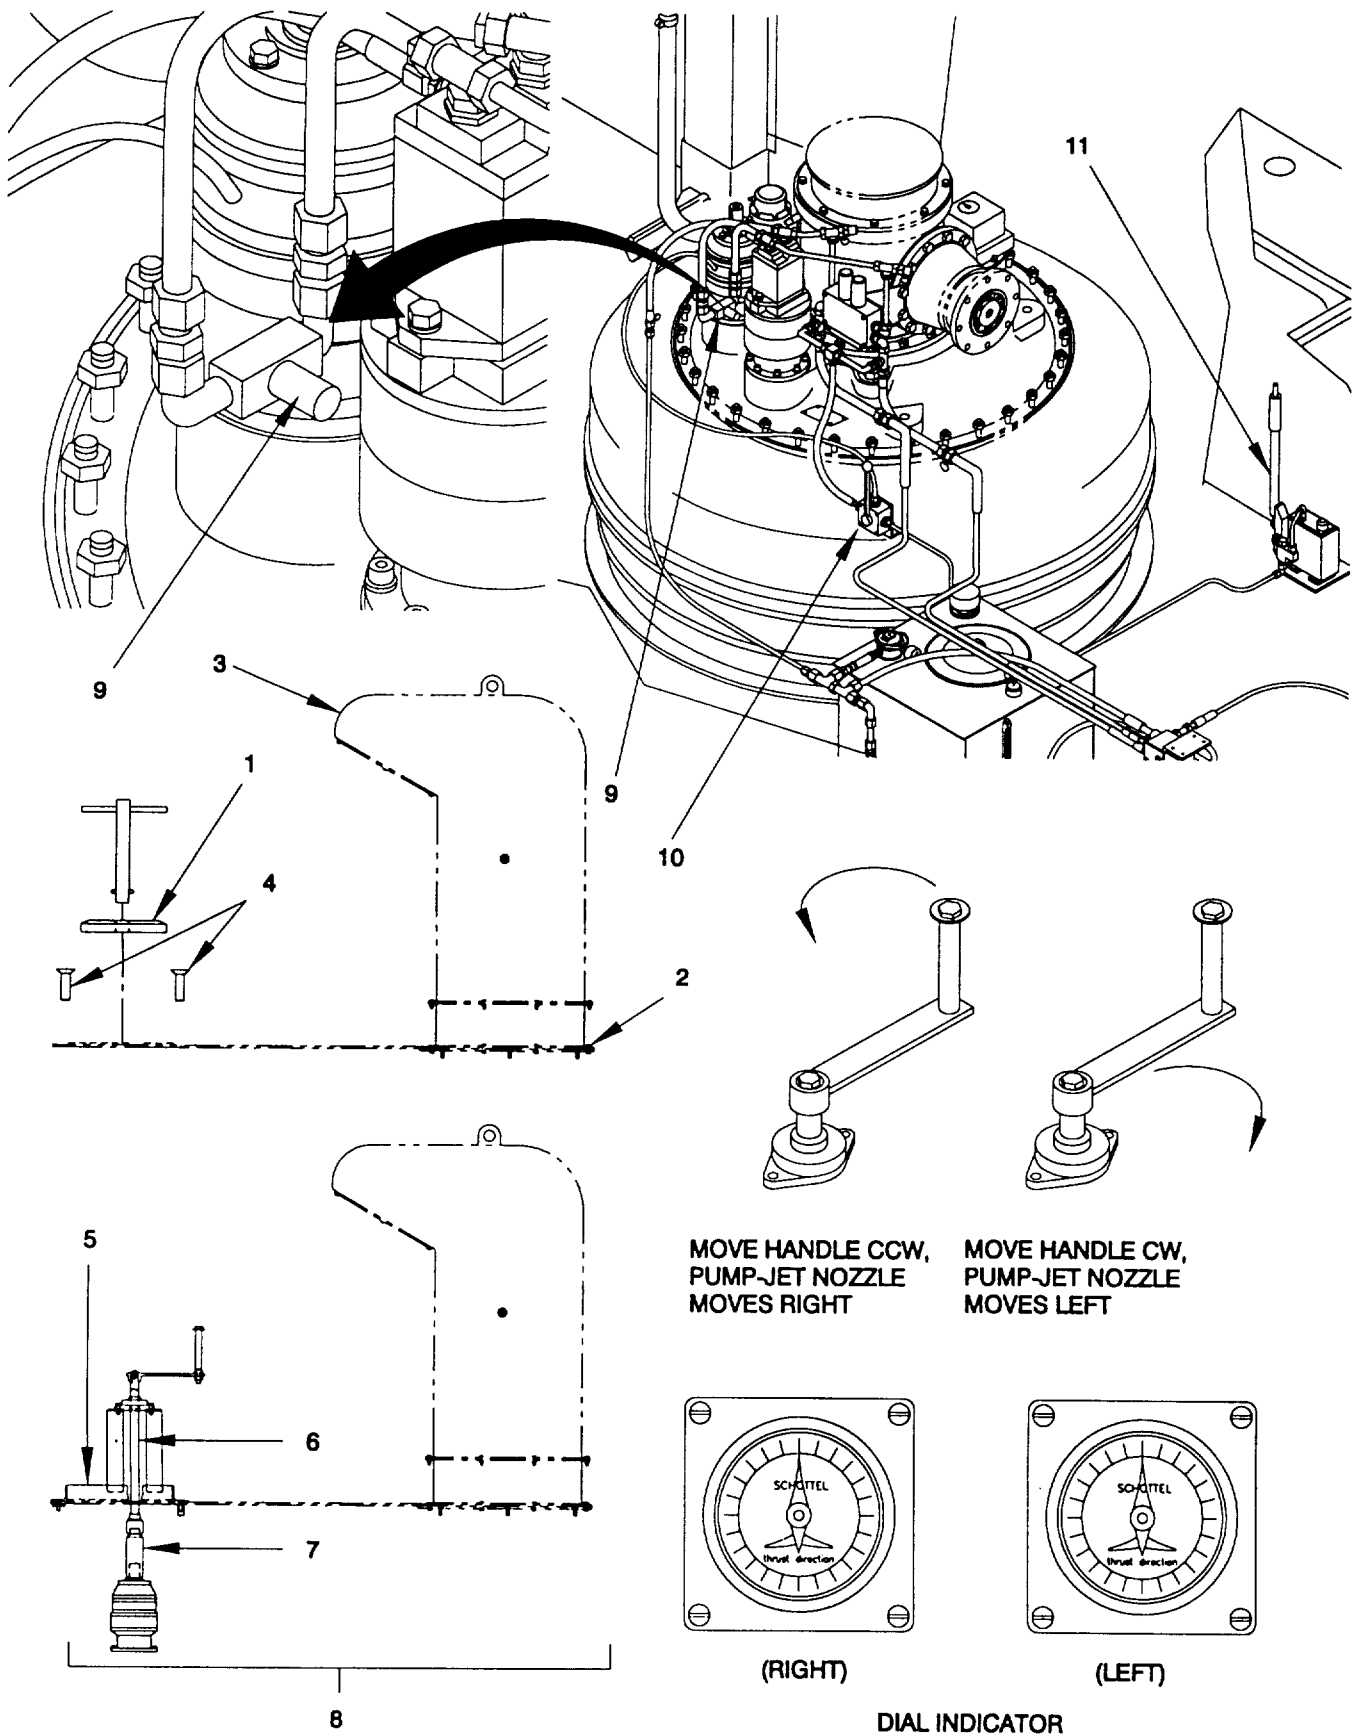

Figure 2-56. Emergency Steering Installation and Procedures.
2-15.3 Emergency Steering. The following procedures, in conjunction with Figure 2-56, describe proper installation procedures for the Emergency Steering System. Once installed, turn crank handle clockwise (CW) to steer to the left and counterclockwise (CCW) to steer right. Operator in cab will observe dial indicator as needle points in direction of thrust.
- b. Remove emergency steering hatch cover (1) on propulsion module Pump-Jet/Thruster hatch (2) located aft of the exhaust plenum (3).
- c. Remove three flat head screws (4) from the from Pump-Jet/Thruster hatch (2).
- d. Set support (5) on Pump-Jet/Thruster hatch (2) and reinstall three flat head screws (4) through the slotted holes in the support (5). Do not tighten.
- e. Install drive shaft (6) on hydraulic steering motor (7) shaft. The shaft has a 1.81 12 point socket which fits over the 1-1 /2 square head located on the top of the steering motor. Note direction in which PumpJet/Thruster (8) is pointing and line up the keyway in the drive shaft (6) to point in the same direction.
- h. Open emergency steering needle valve (9) in the hydraulic lines to the hydraulic steering motor (8).